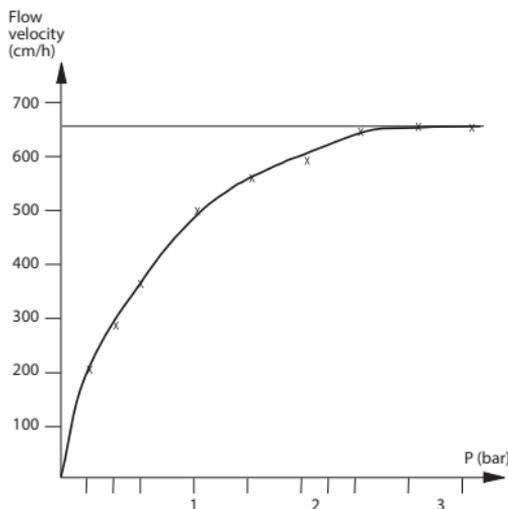

Fig 2. Pressure/flow curve for Sepharose 6 Fast Flow, bed height 10 cm.
Sepharose 6 Fast Flow based resins are easy to pack since their rigidity allows the use of high flow rates (see Figure 2, on page 10). Three suitable types of packing method are given in this instruction:
- 6** Plot pressure against flow as indicated in Figure 2, on page 10. The optimal packing flow velocity/pressure is 70% to 100% of the maximum flow velocity/ pressure.